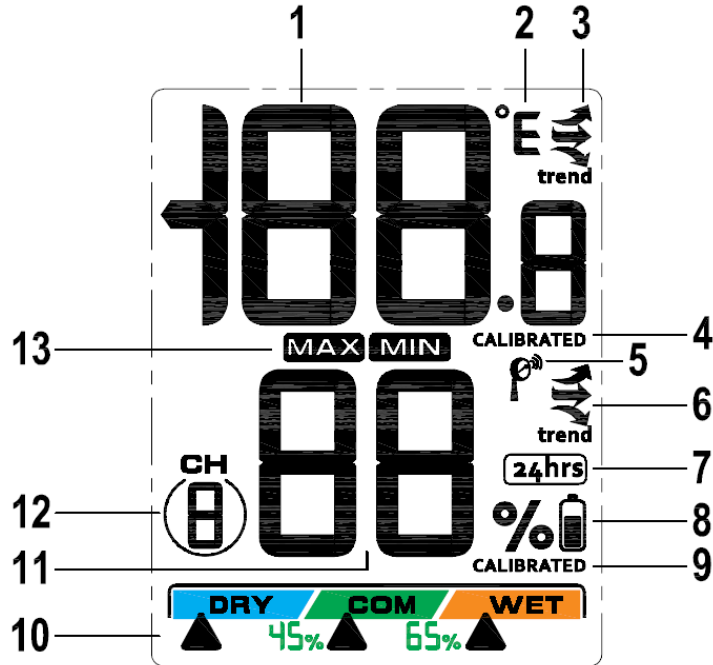

Figure 2
3. Verify the correct channel number (CH) and temperature units of measure (°F vs. °C) are on the display, as shown in Figure 2.